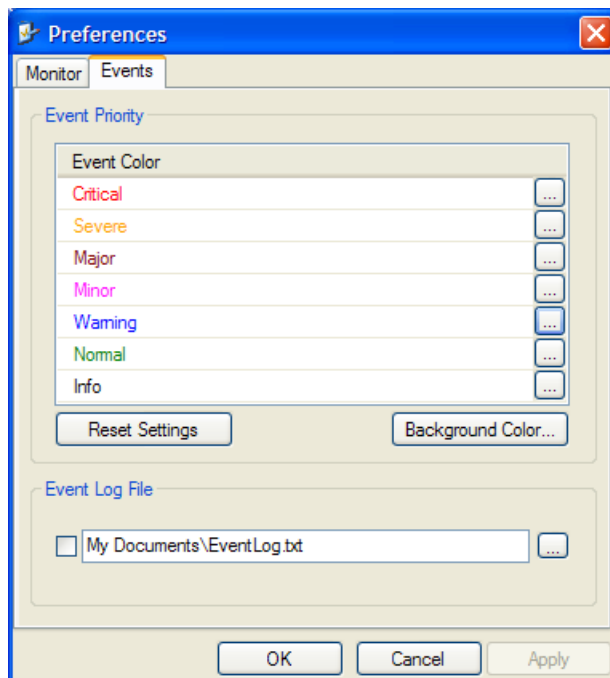

Figure 5-3. Preferences Dialog Box, Event Log Tab
2. Click the **Events** Tab (see Figure 5-3).
The Preferences dialog box appears (see Figure 5-3).